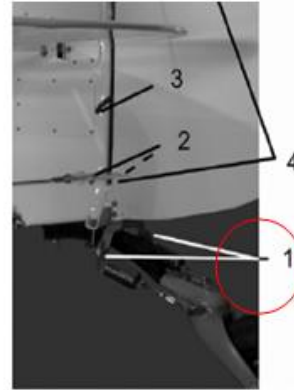

Figure 14
11. Refer to AMM 32-20 to install the tail wheel assembly. Make sure all components are installed correctly and the torque is correct. Install the tail wheels and inflate the tires per AMM 32-41 and AMM 12-20 respectively. (Figure 14)